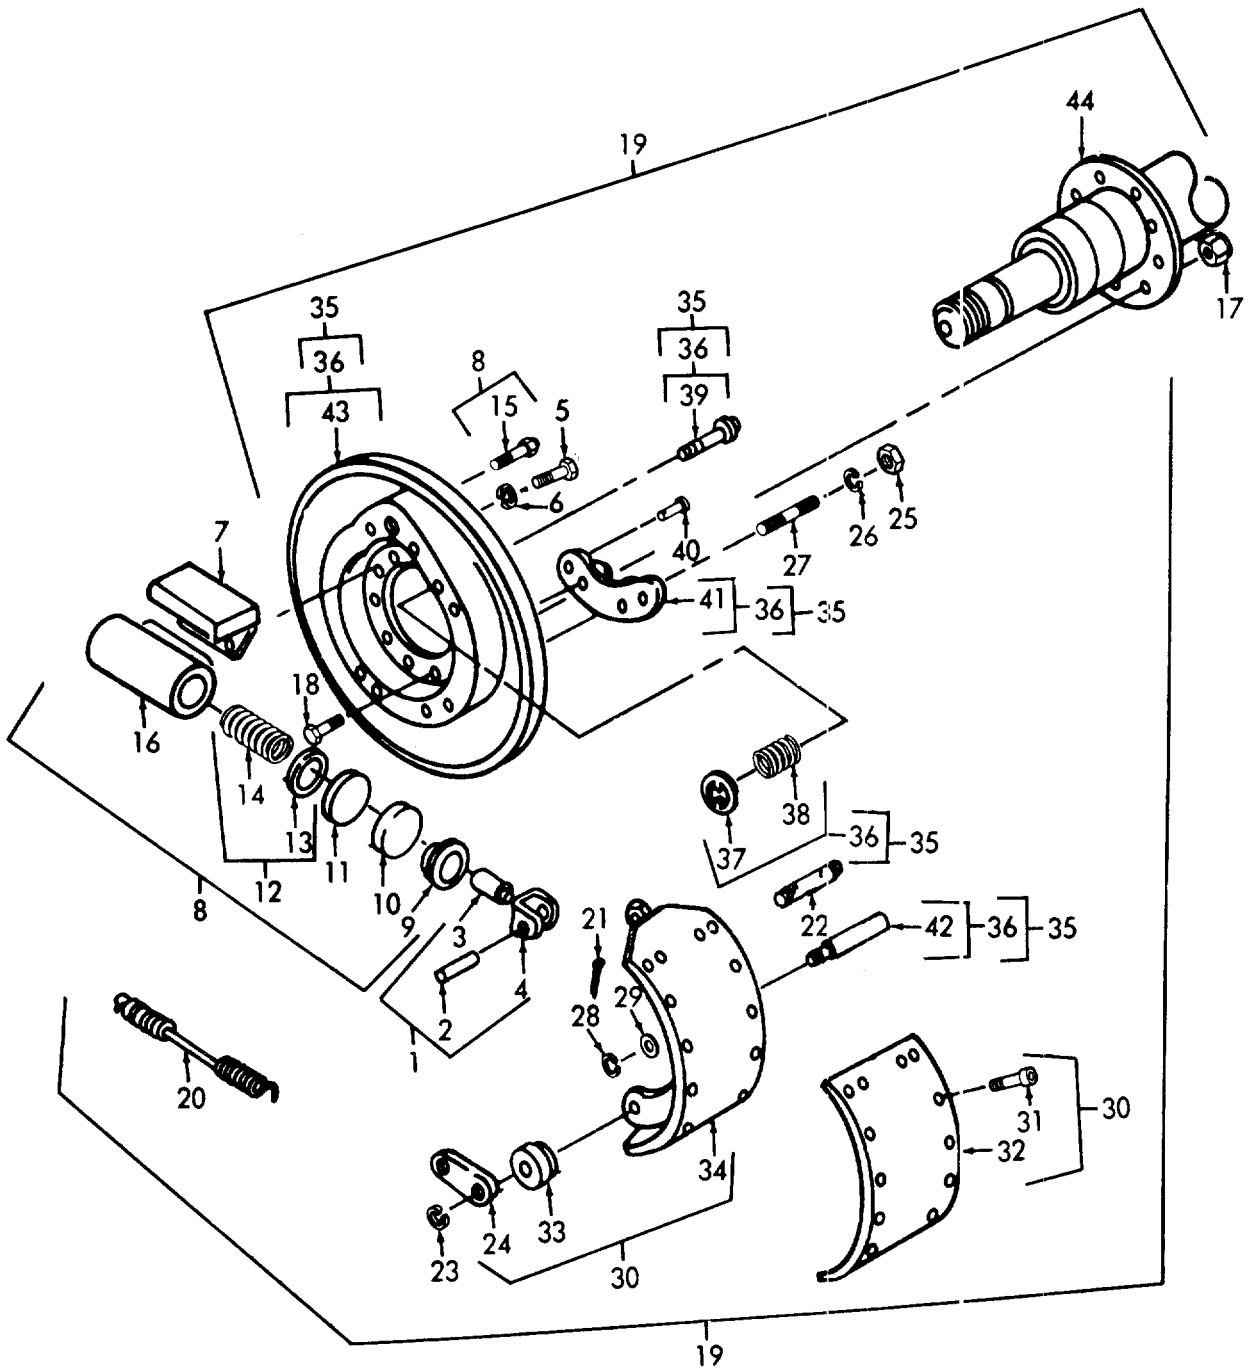

Figure 19-8. Brake Shield and Shoe.
- (1) Remove the hub and brake drum (para. 19-15).
- (2) Remove the two C-washers (23, figure 19-8) and remove strap (8).
- (3) Remove the brake release springs (14) and remove the brake shoes (11).
LEGEND FOR FIGURE 19-8:
- a. Removal and Disassembly (Refer to figure 19-8).
- (1) Remove the hub and drum (para. 19-15).
- (2) Remove the brake shoes (para. 19-12).
- (3) Remove the rivets and remove the brake linings (9) from the brake shoes.